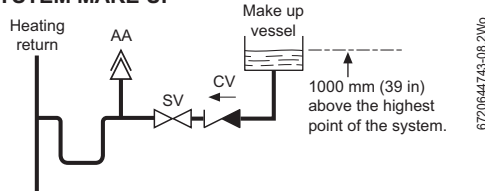

Fig. 2 System fill/System make-up
- The CH sealed system must be filled using a WRAS approved filling loop or comply with figure 2 for system fill.
The central heating sealed system must be filled using a WRAS approved filling loop or comply with figure 2 for System fill.